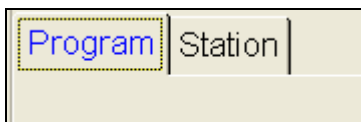

Figure 16.1.6D
- You will automatically start in the **Program** tab section of **Controller Schedule** (Figure 16.1.6D).